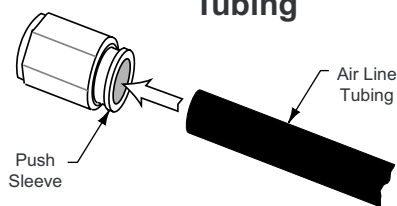

Fig. 23
**Note:** To assemble air line tubing into fitting, use firm, manual pressure to push tubing into fitting until it bottoms, Fig. 23. If removal of the air line tubing from the fitting is ever required, hold Push Sleeve in (against fitting) and, at the same time, pull out on tubing.